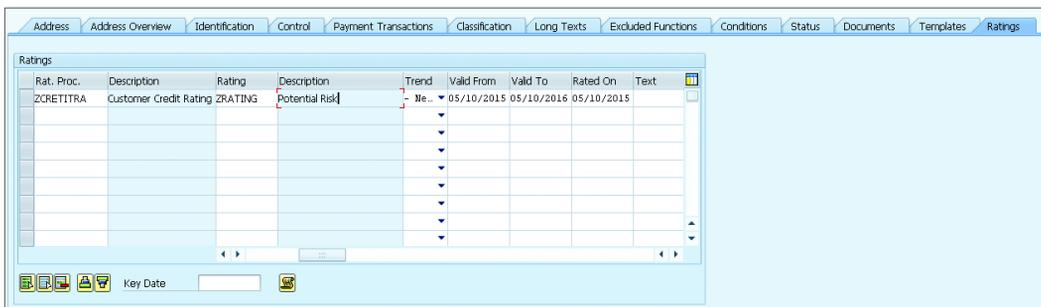

Figure 6.58 Rating Procedure Assignment to the Business Partner
5. Assign the rating procedure to the customer at risk in the business partner master data via Transaction BP, as shown in Figure 6.58.